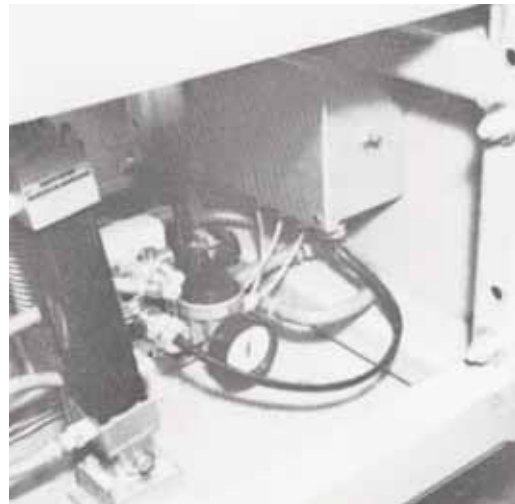

Figure 22
L. A toggle switch is located on both sides of the junction box inside the front end of the HTA. Figure 22 shows the right hand switch and there is a similar switch on the left hand side. These switches control the position of the applicator rollers.